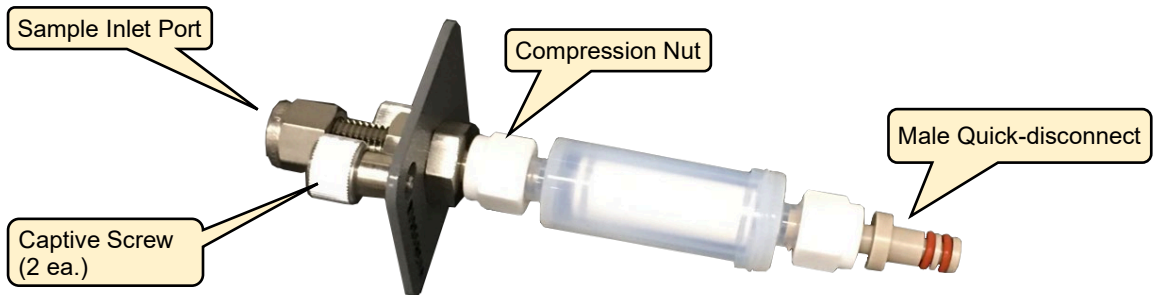

Figure 68: Sample Filter Assembly – Removed from Housing
- Figure 68 shows the sample inlet filter assembly after removal. It is not necessary to remove the hose from the sample inlet port.